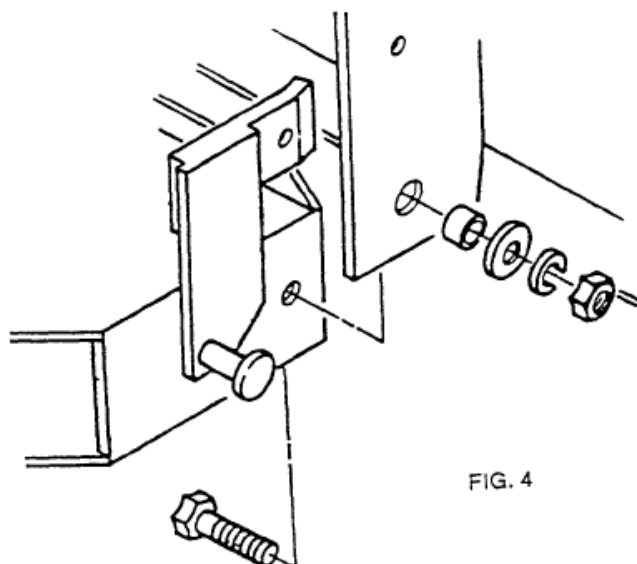

FIG. 4
(1) Attach the blade to the pivot using (2) 3/4-10 x 3" hex hd. capscrews, bushings, flatwashers, lockwashers and nuts as shown in FIG. 4. Tighten securely.